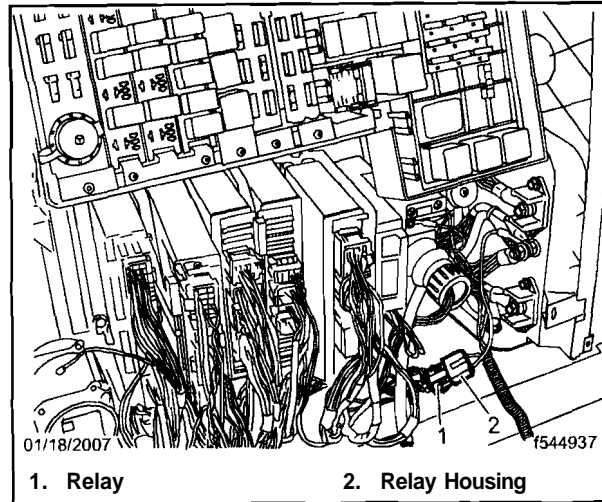

Fig. 9, Relay Installation
2. Determine a position for the new relay and relay housing in the electrical compartment behind the passenger seat. It is possible there may be an empty slot it can slide into or, if not, it can be secured with zip ties to existing wiring. See **Fig. 9** for an acceptable installation.